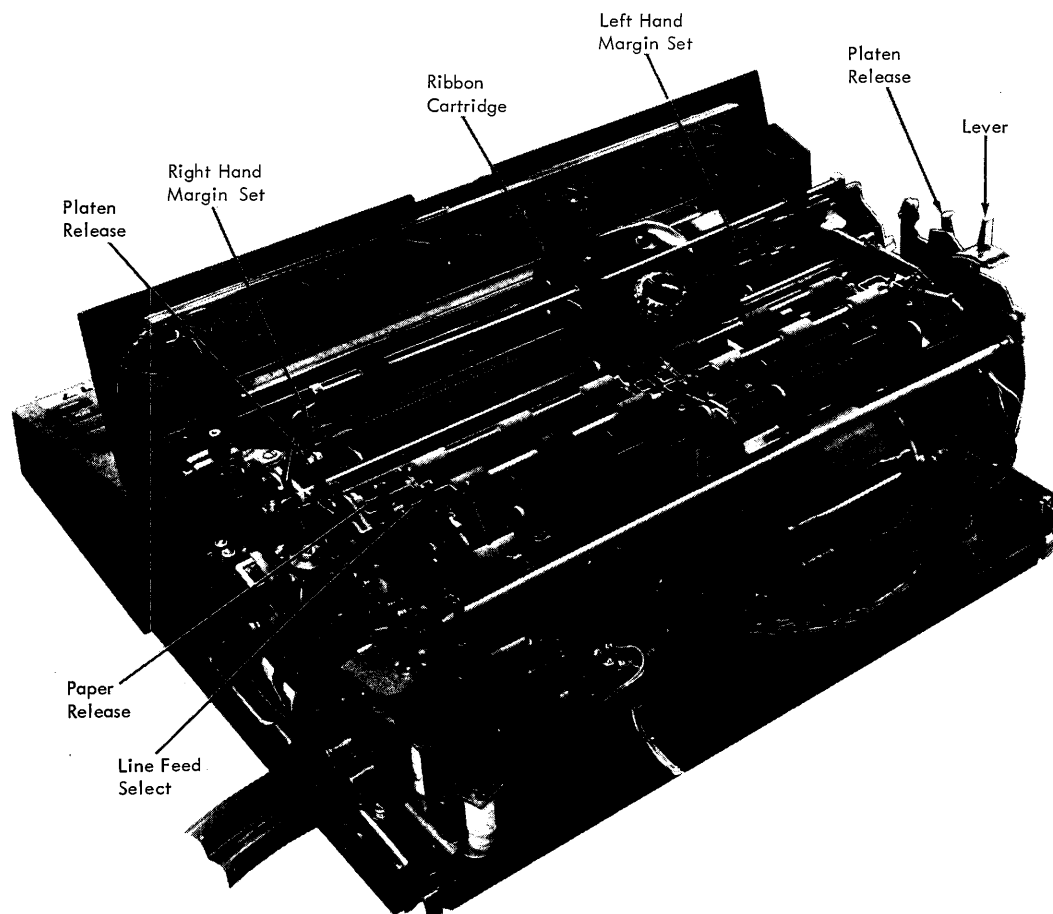

Figure 36. Margin Set Controls
Margin Set Controls - These controls (Figure 36) enable the adjustment of the left and right margin stops.
3. Press the blue margin stop set controls toward the operator and slide to the desired position (Figure 36).